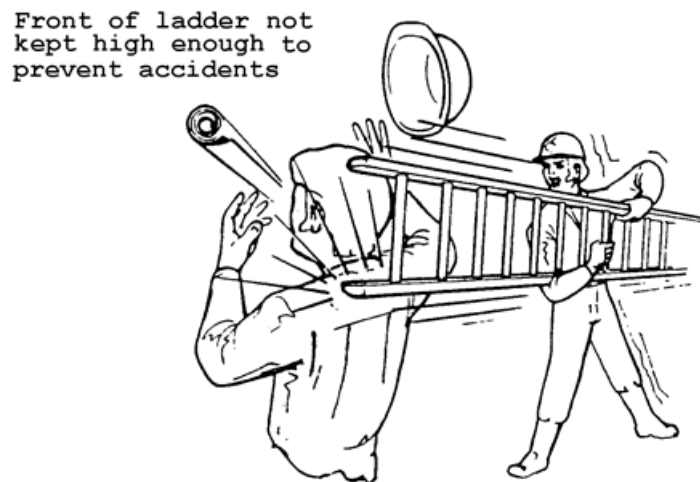

FIG 25.
- Keep the front higher than the back so as to ensure an unobstructed vision ahead and to avoid hitting other people. (Fig 25)